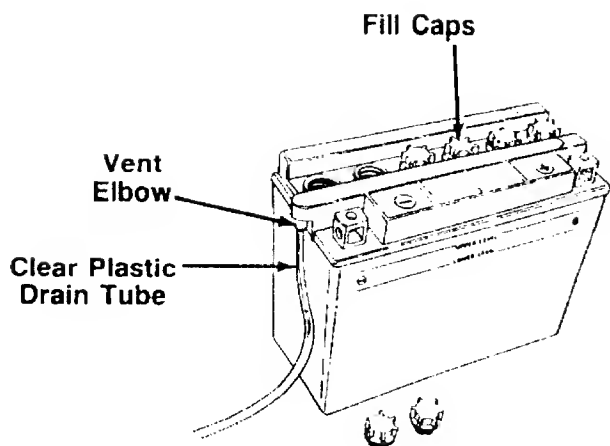

FIGURE 1.
3. Remove the six fill caps from the top of the battery. See figure 1.